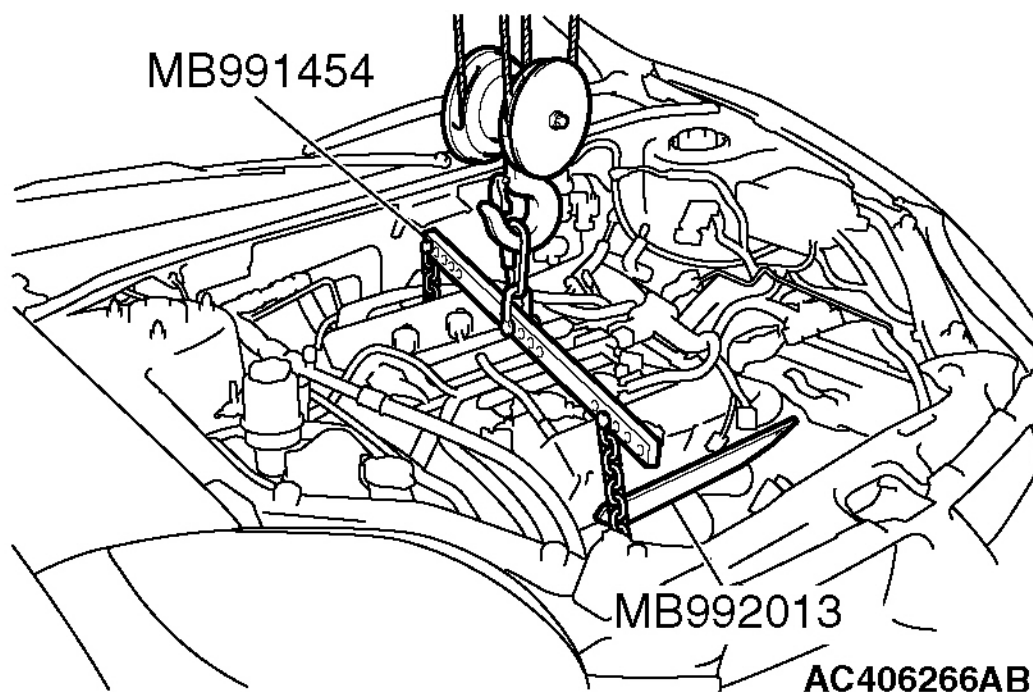

Fig. 33: Holding Engine Assembly With The Chain Block, Etc.
4. Remove special tool MB991454 and hook it again as shown in **Fig. 33**, then, hold the engine assembly with the chain block, etc.